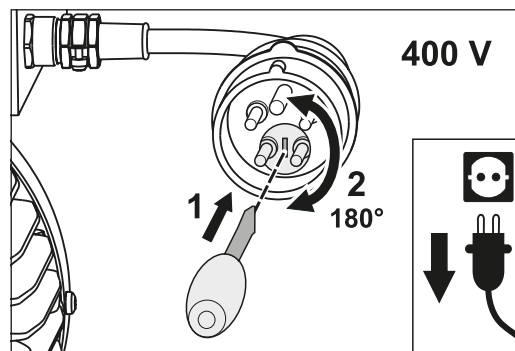

Fig. 23 Change the rotation direction of the motor by turning the phase changing switch at 180°.
- Put a screwdriver in the slit of the phase changing switch in the plug of the motor cable (fig. 23, 1).
- To unlock the phase changing switch press the screwdriver in the slit and at the same time turn the screwdriver at 180° (fig. 23, 2).
- To unlock the phase changing switch turn the screwdriver at 180° against a small resistance (fig. 23, 2).